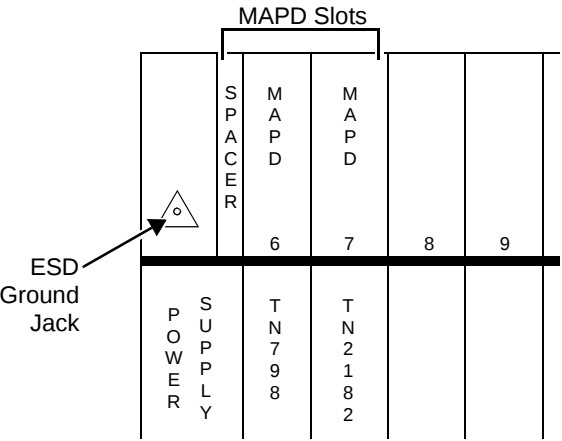

Figure 2-2. MAPD System in a DEFINITY ProLogix Carrier
- DEFINITY PROLOGIX carrier — slots 6, 7, and the spacer (see Figure 2-2.). Although any slots can be used, If you use slots 6 and 7 in a DEFINITY PROLOGIX, the MAPD takes up only two slots instead of three.